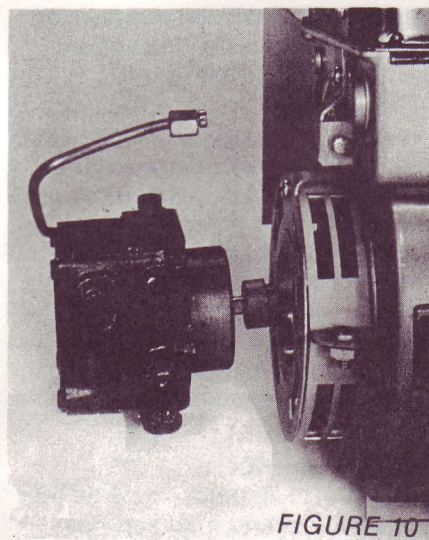

FIGURE 10
2. Remove the two bolts securing the pump to the burner housing as shown in Figure 10.